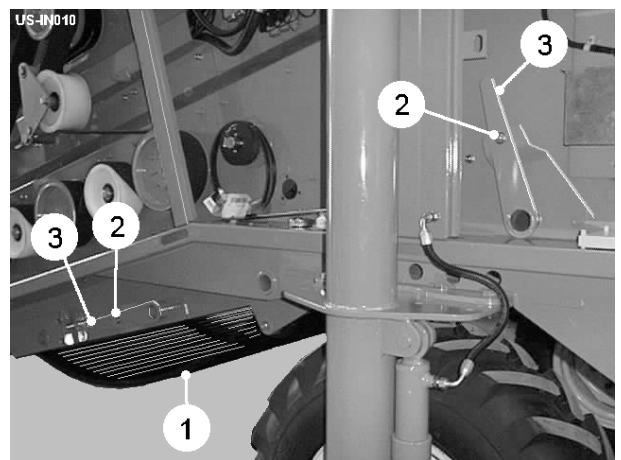

Fig 11
The underweb (item 1, fig 11) mounted below the stars transfers the stones and clod etc. to the cross conveyor. A range of webs are available to suit varying conditions. A front and rear set of agitators are fitted which can be adjusted to increase/decrease the amount of web agitation. To adjust, remove the retaining bolts (item 2 fig 11) and pivot the agitator levers (item 3, fig 11) to the required position. Pivoting the agitator levers clockwise will decrease the amount of agitation.